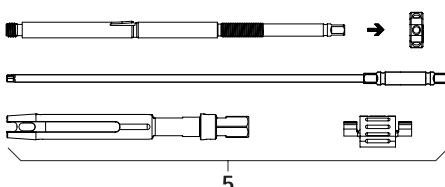

Fig. 3
- Dismantle reduction lever percutaneous **5**, see Fig. 3. Fully disassemble and unscrew lock nut.